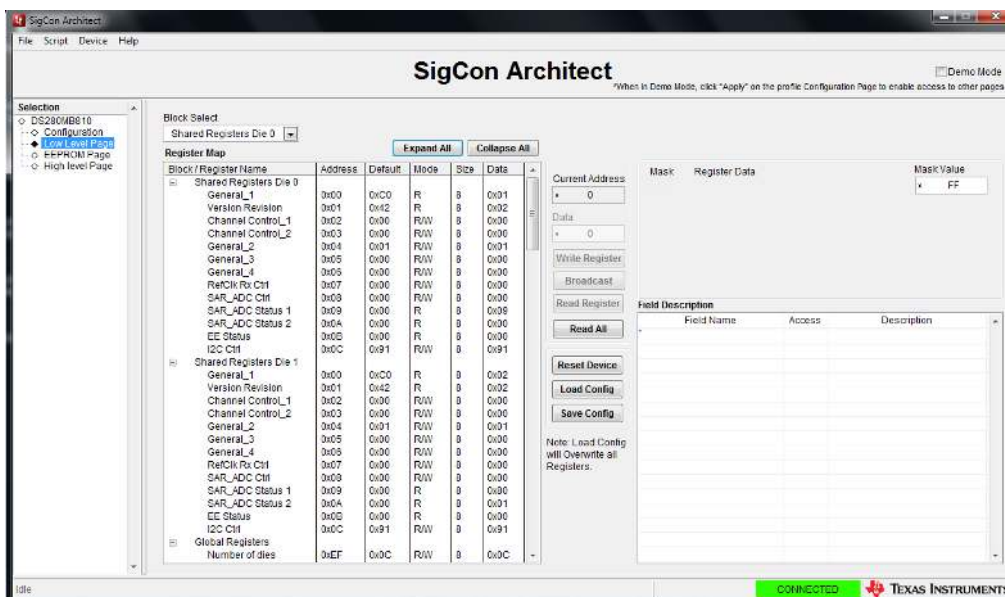

Figure 6. SigCon Architect Low Level Page.
8. In order to read and write to all registers on the DS280MB810, navigate to the “Low Level Page,” as shown below in Figure 6. Only in SMBus Slave Mode can the user read and write to all programmable registers. Click “Read All” in order to load the data in each register from the device to the “Register Map.”